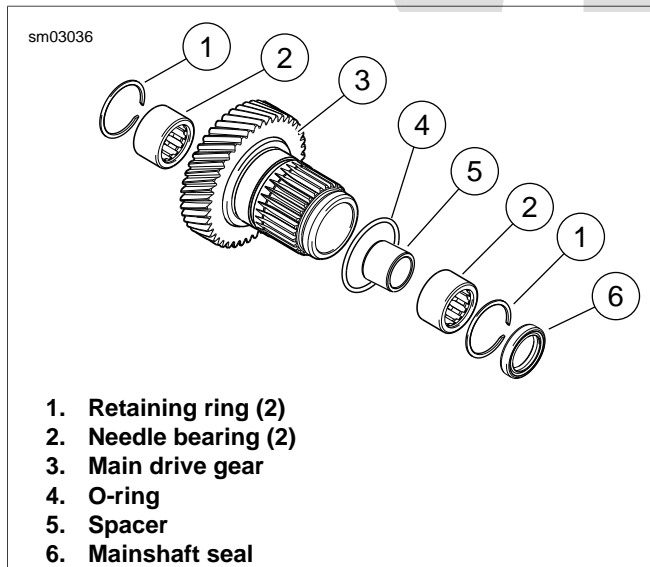

Figure 6-37. Main Drive Gear Assembly
1. See Figure 6-37. Remove mainshaft seal (6). Remove retaining rings (1), needle bearings (2) and spacer (5) from main drive gear (3). Discard retaining rings.
2. Remove and discard o-ring (4).
6. See Figure 6-37. Turn over the main drive gear in the arbor press. With the tool at the 0.188 in. step, press inner bearing until tool contacts gear.
7. See Figure 6-37. Install **new** retaining rings (1).
8. Install **new** o-ring (4) into groove in main drive gear.